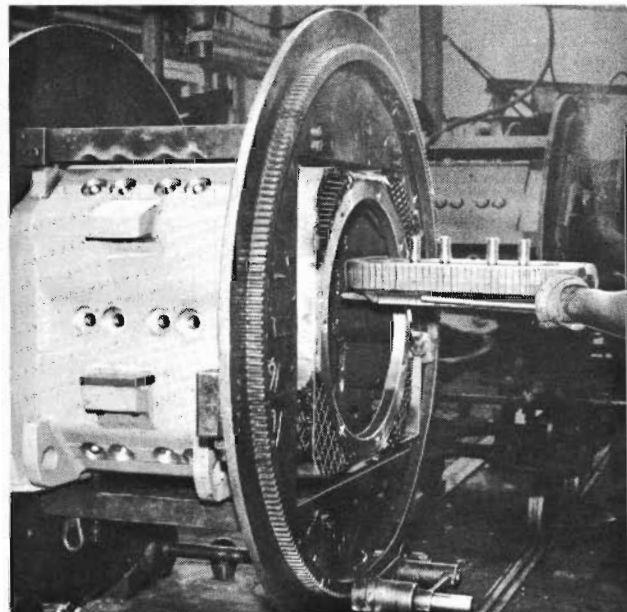

Fig. 17 - Main Coil Being Placed Into Frame
7. Index stator frame fixture so that location for No. 1 main field coil is at top position. Using lifting fixture, position No. 1 coil assembly on fixture and move into stator frame with coil leads facing the pinion end, Fig. 17. Align studs of coil assembly with holes in stator frame and raise coil assembly. Apply nuts and lockwasher to pole studs. Tighten